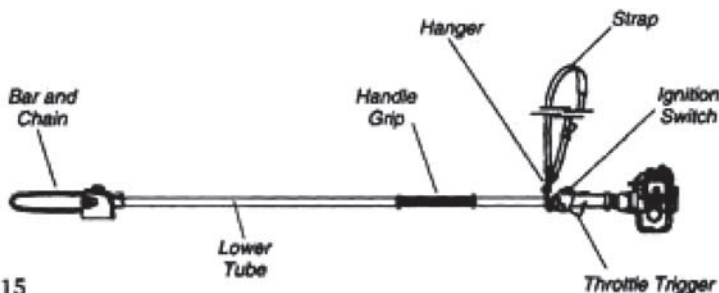

Figure 15
2. Follow "assembling the tube sections" section to assemble the gearcase onto the lower tube assembly. See figure 15 .